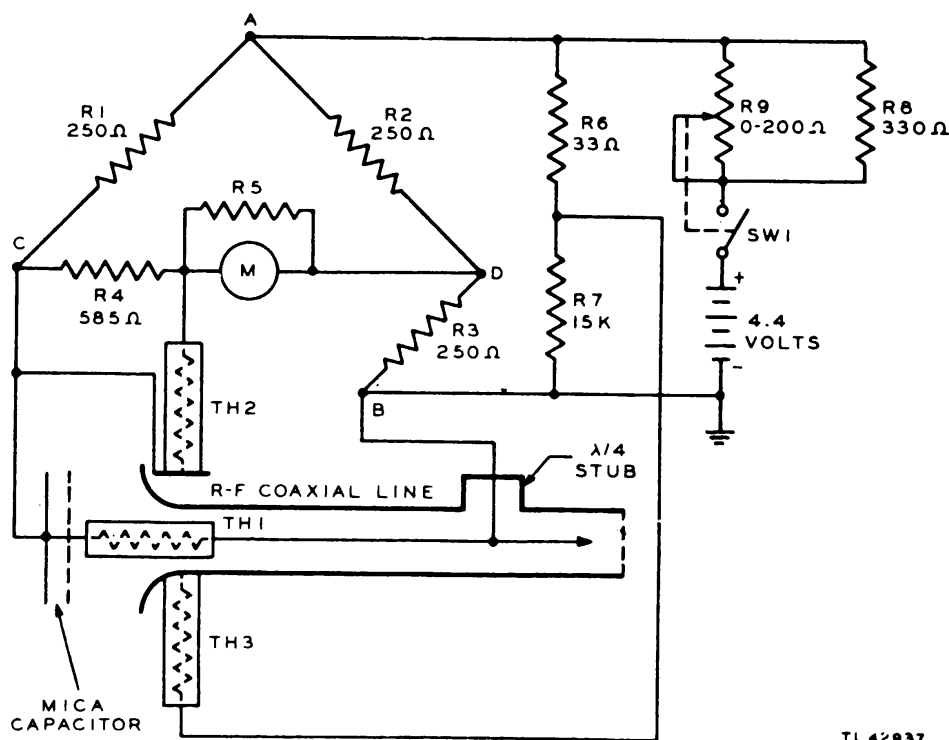

Figure 36. Power Meter TS-125/AP, schematic diagram.
## 46. POWER METER TS-125/AP (fig. 36).
**b.** Resistors R1, R2, R3, and thermistor TH1 form the arms of a bridge circuit (fig. 36). The normal or cold resistance of the thermistor is above 250 ohms; therefore, the bridge is unbalanced. When switch SW1 is closed, a current flows from the battery through variable resistor R9 to the bridge where it divides: part of the current flows through R2 and R3, then back to the battery; the other portion of current flows through R1, TH1, and back to the battery. Point C is now positive with respect to point D and the meter will read backwards. The current flowing through TH1 causes TH1 to heat, thereby reducing its value of resistance. When the resistance of TH1 decreases to 250 ohms, the meter will read zero because points C and D are at the same potential.